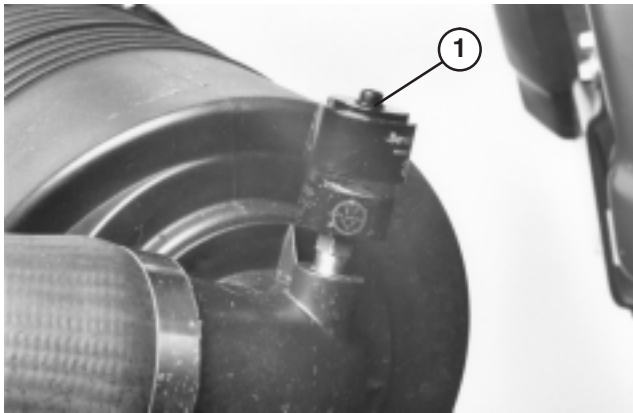

Figure 26
2. Service the air cleaner filters when ever air cleaner indicator (Fig. 26) shows red or every 400 hours (more frequently in extreme dusty or dirty conditions). Do not over service air filter.
8. Reset indicator (Fig. 26) if showing red.